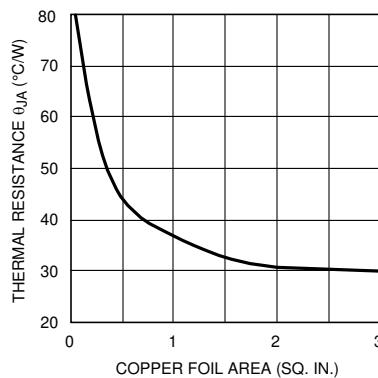

图 6-4. Thermal Resistance (Typical) for 7-L DDPAK Package Mounted on 1 oz. (0.036 mm) PC Board Foil
5. Choose a copper area that will ensure the specified  $T_{J(MAX)}$  for the calculated  $\theta_{JA}$ .  $\theta_{JA}$  as a function of copper area in square inches is shown in 图 6-4.
4. Finally, using this value for  $\theta_{JA}$  choose the minimum value of copper area from 图 6-4.
Examining 图 6-4, we see that we cannot attain this low of a thermal resistance for one layer of 1 oz copper. It will be necessary to derate the part by decreasing either the ambient temperature or the power dissipation. Other solutions are to use two layers of 1 oz foil, or use 2 oz copper (see 表 6-1), or to provide forced air flow. One should allow about an extra 15% heat sinking capability for safety margin.